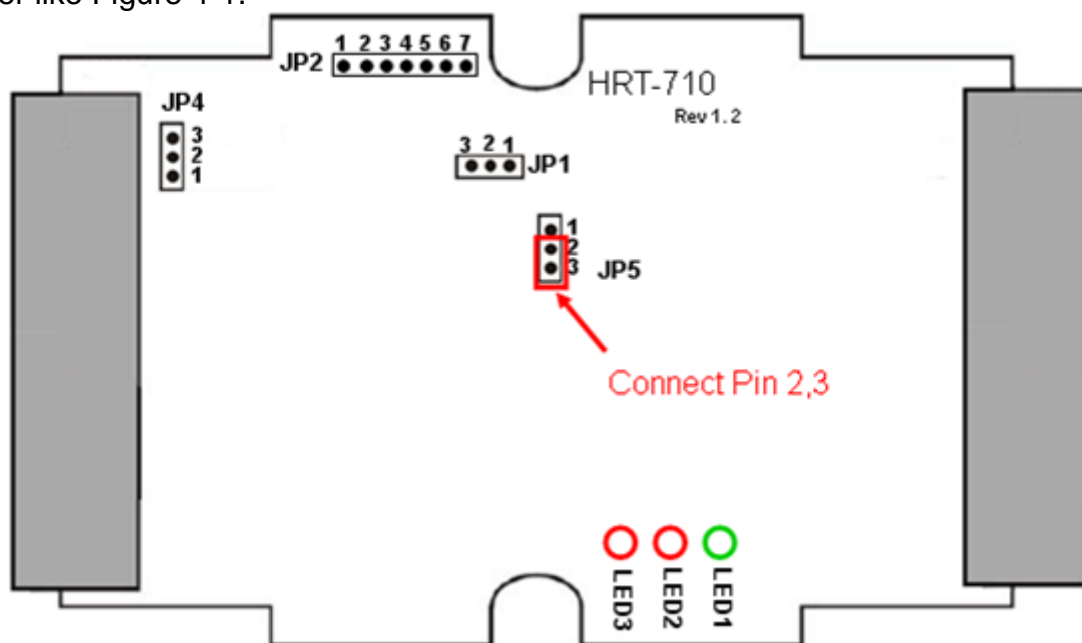

Figure 4-1 Connect pin 2 & 3 of JP5 together
- (1) Download the newest firmware of HRT-710. (Download from [ftp://ftp.icpdas.com/pub/cd/fieldbus\\_cd/hart/gateway/hrt-710/firmware/](ftp://ftp.icpdas.com/pub/cd/fieldbus_cd/hart/gateway/hrt-710/firmware/) )
- (2) Turn off the power and open the shell of HRT-710. Then connect the pin 2 & 3 of JP5 together like Figure 4-1.